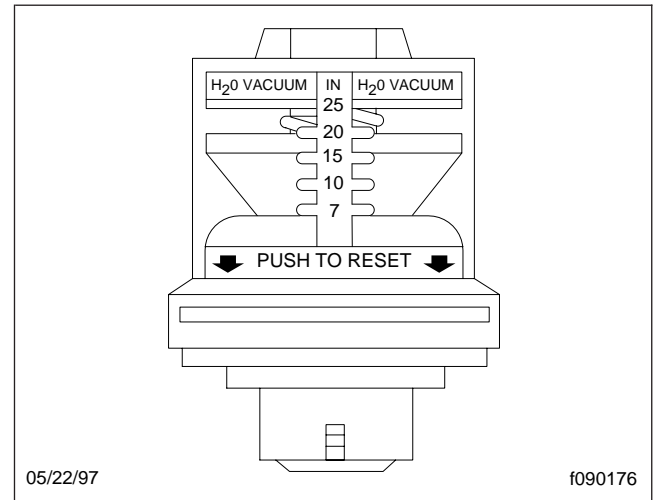

Fig. 11.2, Air Restriction Indicator
- 6.1 Check the intake-air restriction indicator to determine if the air cleaner needs to be changed. See Fig. 11.2.